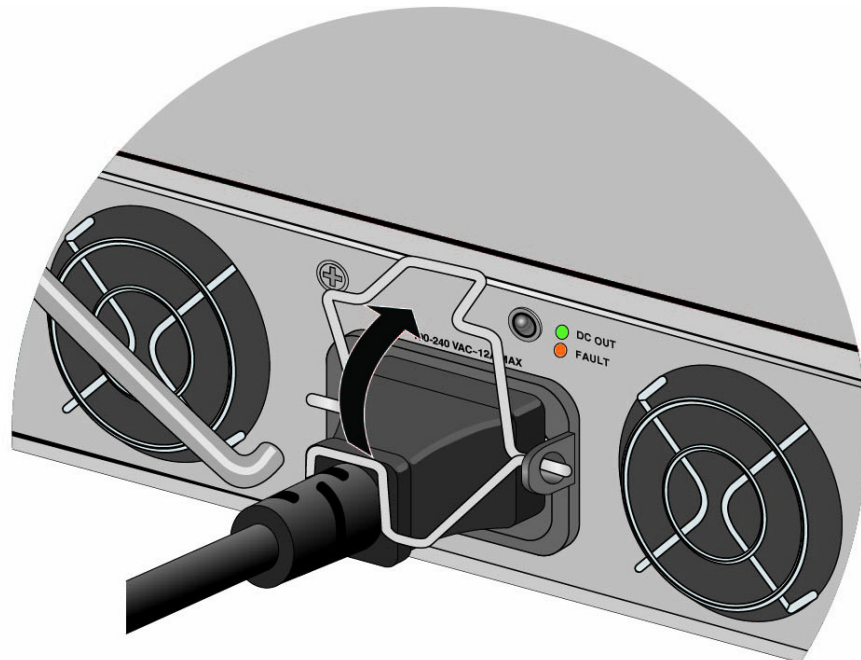

Figure 62. Lifting the Power Cord Restraining Clip
1. Lift the power cord retaining clip on the power supply. Refer to Figure 62. The PWR1200 power supply does not have a retaining clip.